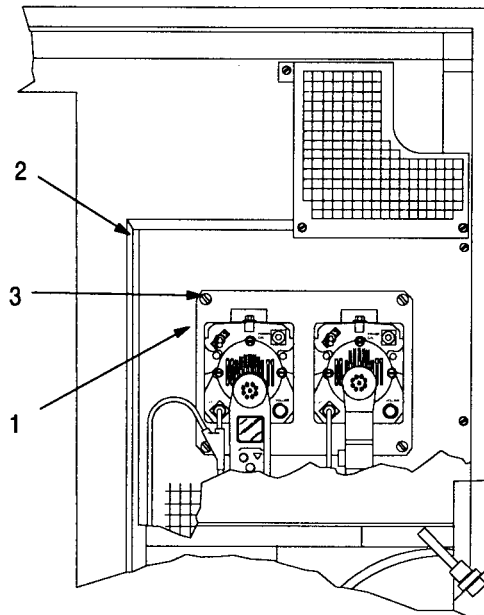

Figure 1-12. RRA Mounted on Rear Control Panel
(1) RRA Setup in Mobile Mode.
- (a) The RRA (1, figure 1-12) is positioned on side of rear control panel (2) for mobile mode operations. The RRA is fastened to side panel of rear control panel using four permanently attached knurled-head screws (3).